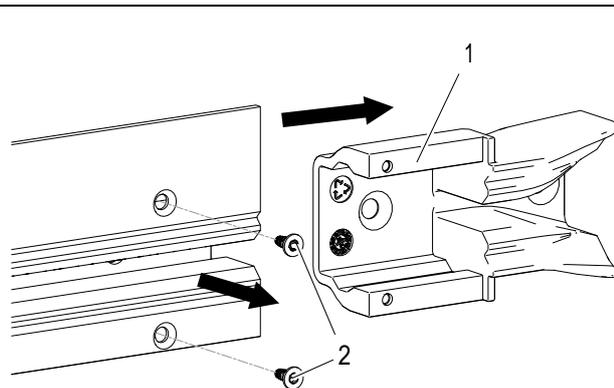

Fig. 61: Disassemble transfer guide
- Loosen the 2 screws M2.5 x 6 (2) and disassemble the transfer guide (1) (see Fig. 61).